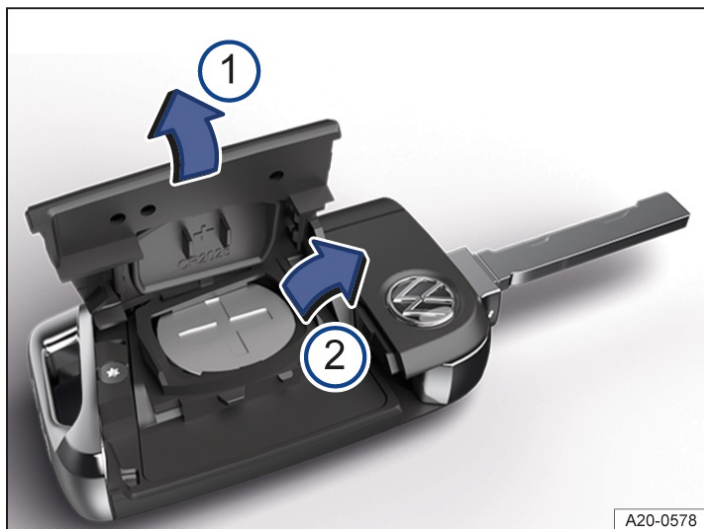

Fig. 1 Vehicle key: Replacing the button cell battery (general example).
- ① Cover
- ② Button cell battery
2. Lever off the cover → *fig. 1* ① → ⓘ.
3. Lift the button cell battery out of the battery compartment → *fig. 1* ②.
5. Press the cover onto the housing → *fig. 1* ①.